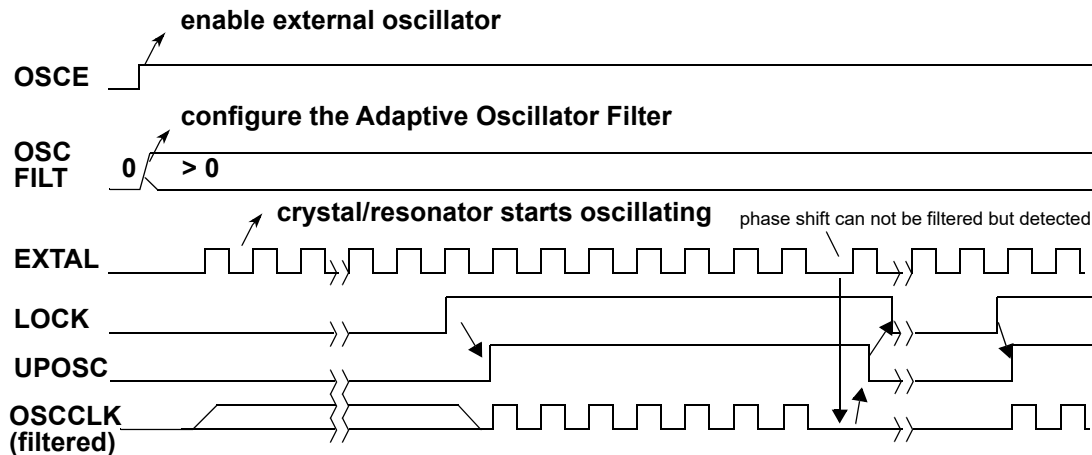

Figure 99. Critical noise detected by the adaptive oscillator filter
2. Detect severe noise disturbance on external oscillator clock which can not be filtered and indicate the critical situation to the software by clearing the UPOSC and LOCK status bit and setting the OSCIF and LOCKIF flag. An example for the detection of critical noise is illustrated in Figure 99.